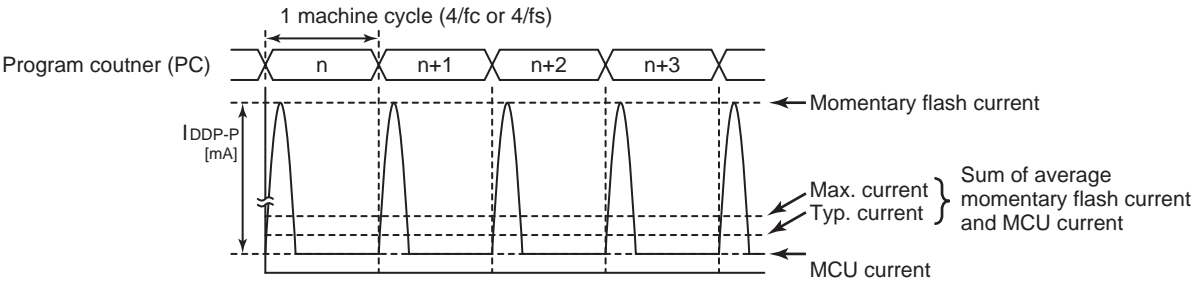

Figure 20-1 Intermittent Operation of Flash Memory
- Note 5: When a program is executing in the flash memory or when data is being read from the flash memory, the flash memory operates in an intermittent manner, causing peak currents in the operation current, as shown in Figure 20-1.